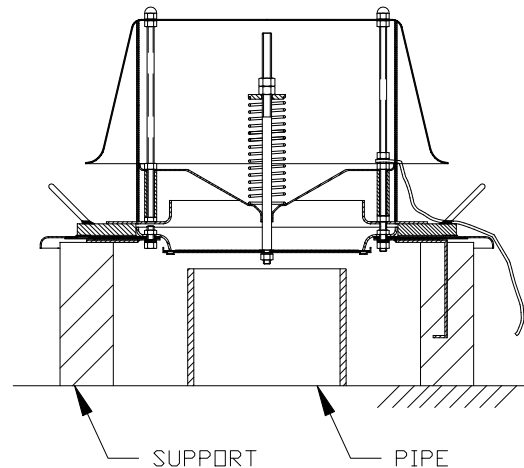

Figure 6 : Pallet Support (2050A)
3. Using the handles [30] on the weight plate [29], or the edges of the pallet, lift vertically. Set the cover on three evenly spaced support blocks (Figure 6). This will elevate the retainer plate peripheral guides above the table so they aren't bent or damaged.